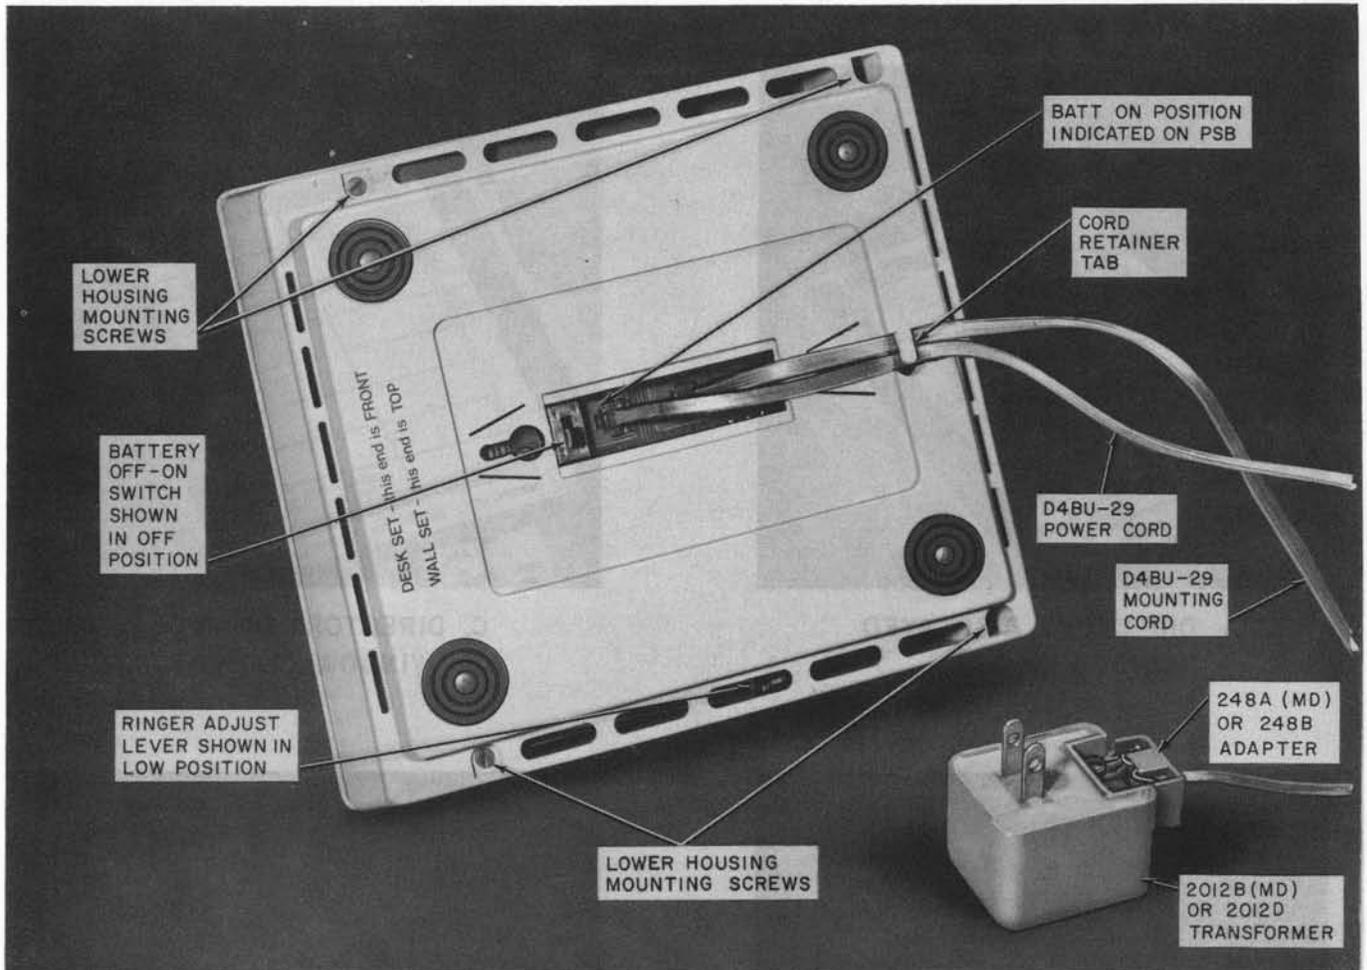

Fig. 2—2960A01M Telephone Set, Bottom View
- Battery OFF-ON switch (located on the bottom of the set, Fig. 2), should be in the OFF position when set is not in service.
3.04 Attached 248A or 248B adapter to 2012B (MD) or 2012D transformer (Fig. 2) and plug into 110-117 volt ac outlet not controlled by a switch (continuous ac power is required). Plug one end of the D4BU-29 line cord (maximum 14 feet) into the power jack on the bottom of the set (Fig. 15D) and the other end into the 248A or B adapter attached to the transformer.
3.06 The set is shipped from the factory with the battery switch in the OFF position. After all wiring changes and modifications have been completed, tilt the set up and move the battery switch arm (visible in the bottom view of the set, Fig. 2) to the ON position.
Note: The switch ON position is indicated on the bottom of the printed wiring board, (Fig. 2) and if switch is not placed in ON
Note: Dress all cords under retainer tab at bottom rear of housing, Fig. 2.